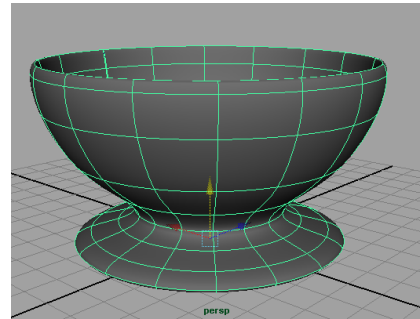

**Figure 3-84** Dotted impression of the isoparm
2. Choose a vertical isoparm of the tea cup and then drag the cursor; a dotted impression of the isoparm is created on the cup, as shown in Figure 3-84.